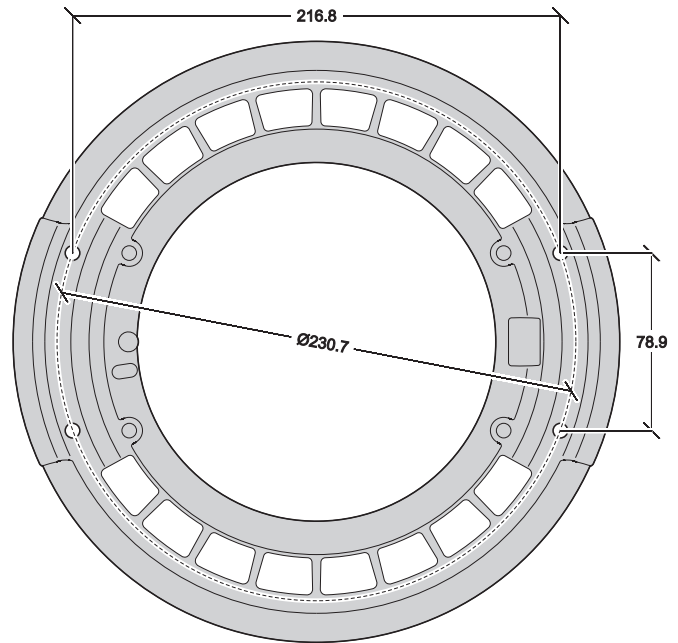

Figure 15: Dimensions for followspot handles
Warning! *Screws used to fasten any item to the rear of the head may only be fastened into the holes (arrowed in Figure 15) provided in the rear head cover. Do not attempt to fasten any item to the rear of the head by any other method. Screws must not protrude more than 15 mm (0.6 inches) into the rear head cover, or there is a danger that they may damage electrical insulation inside the head and create a risk of serious or lethal electric shock for the operator.*
- Four holes (arrowed in Figure 15) are provided in the fixture’s rear head cover for fastening followspot handle mounting brackets.
Besides being constructed so that they will not foul the yoke at any point in the tilt range, mounting brackets must match the dimensions shown in Figure 15.
Dimensions in Figure 15 are shown in millimeters: